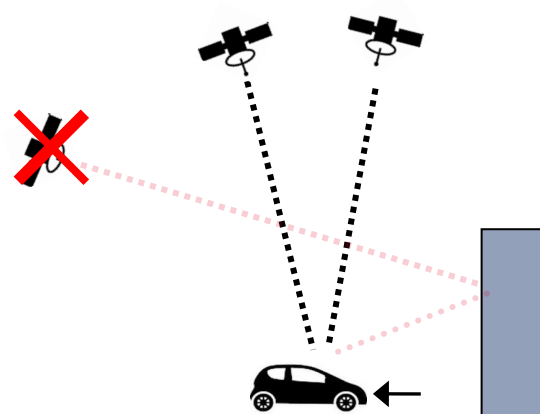

Figure 5: Position calculated by GPS receiver, if the multi-path GPS signal is ignored
2. Adjust vertical position with altitude from the BMP38x, see Figure 5. The deviation between non-multi-path and multi-path GPS signals thus differs significantly.
3. Ignoring satellites with a too high deviation re-perform position calculation, see Figure 5.